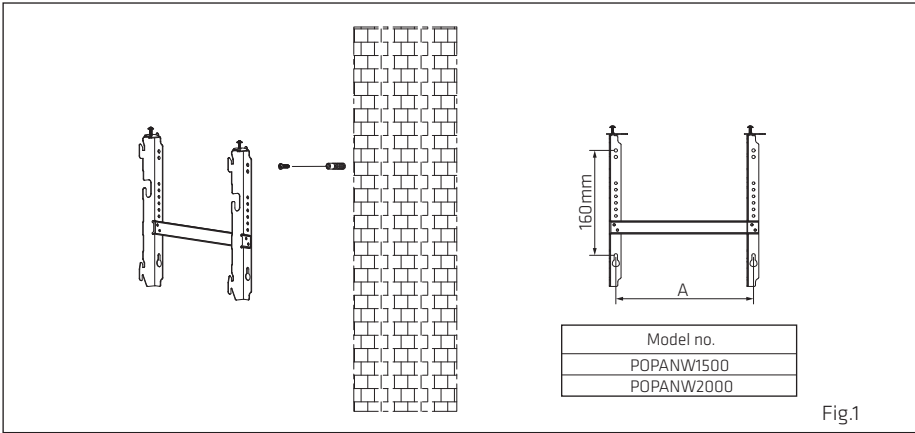

Fig.1
1. Choose a suitable installation location for the heater. Follow the minimum distances in all directions (Fig 1). Disassemble the wall bracket by loosening the screw (not screw off, only loosen) and sliding the metal pieces out of the hole. Take out the bracket by pulling it down.